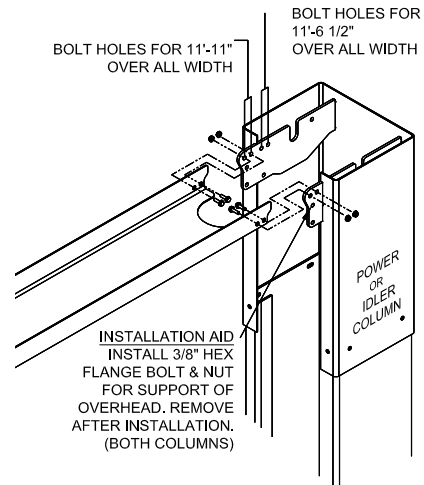

**Fig 3 – Column Shimming**
**Complete steps 8 thru 11 for the five (5) exposed anchors around each column, then raise the carriages. Repeat steps 8 thru 11 for the two (2) anchors under each carriage.**
- 10) Shim both columns to plumb using the shims provided as shown in **Fig 3**. DO NOT shim more than 1/2" at any given point. Use a level no less than 24" in length to plumb columns.
- 14) Check idler column shimming. Use additional shims (**see Fig. 3**) to remove any gaps that may have been created while installing overhead beam. Tighten anchor bolts and recheck column for plumb. Torque to 150 foot pounds.